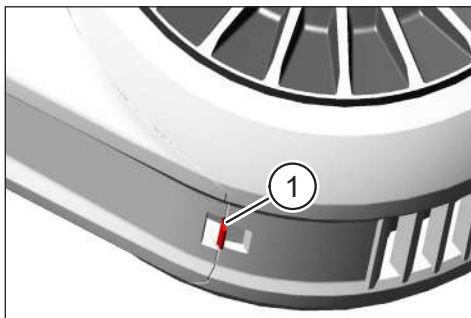

Fig. 9: Catch spring on SkidPlate
- ▶ Press the catch spring (No. 1 in Fig. 9) in the direction of the front wheel to unlock the SkidPlate.